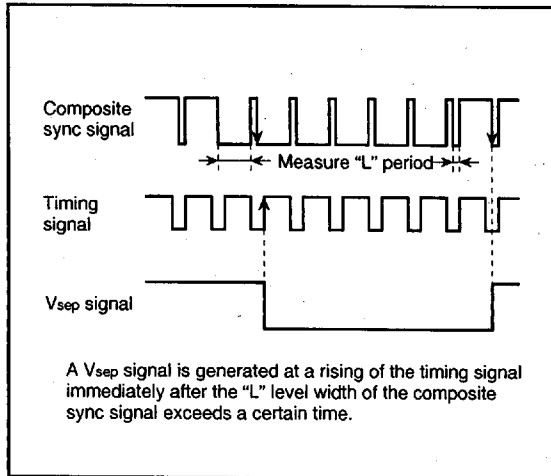

Fig. 20  $V_{sep}$  generating timing (method 2)
- Method 2 The "L" level width of the composite sync signal is measured. If this width exceeds a certain time, it is detected whether a falling of the composite sync signal exits or not in the "L" level period of the timing signal immediately after this "L" level. If a falling exists, a  $V_{sep}$  signal is generated in synchronization with the rising of the timing signal (refer to Figure 20).
Figure 20 shows a  $V_{sep}$  generating timing. The timing signal shown in the figure is generated from the reference clock which the timing generating circuit outputs.